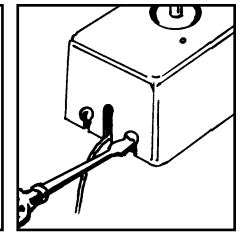

Figure 7
5. Loosen two screws from end of base plate and remove thermostat cover. (See Figure 7.)